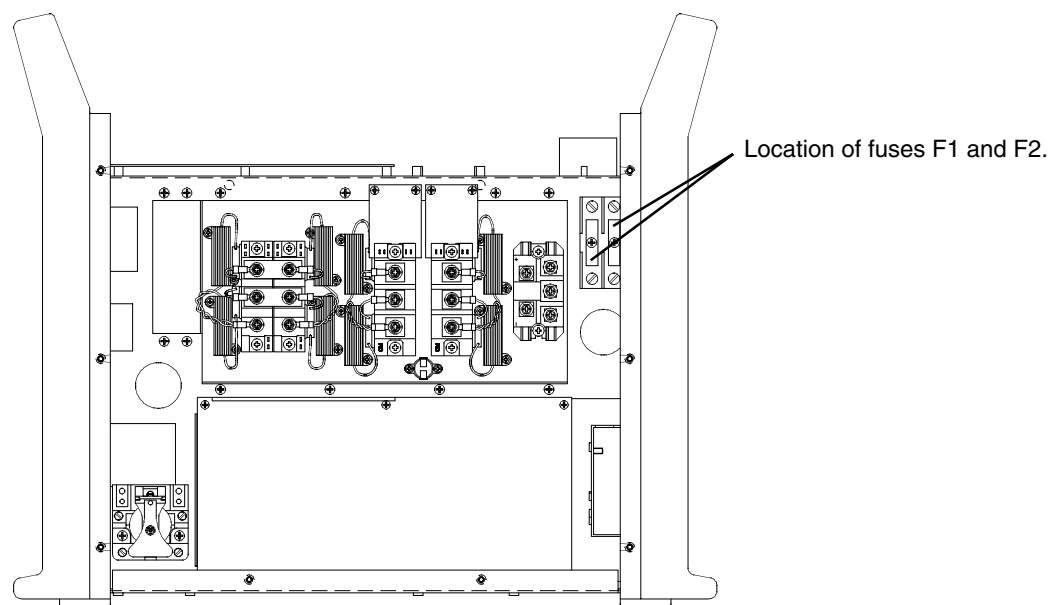

Figure a-1 F1 and F2 Fuse Location
1. Turn the Powermax800 power switch to the OFF (0) position, unplug the power cable from the wall receptacle and disconnect the gas supply. See warning above.
3. Remove the cover and find F1 and F2 power fuses - Fig. a-1.